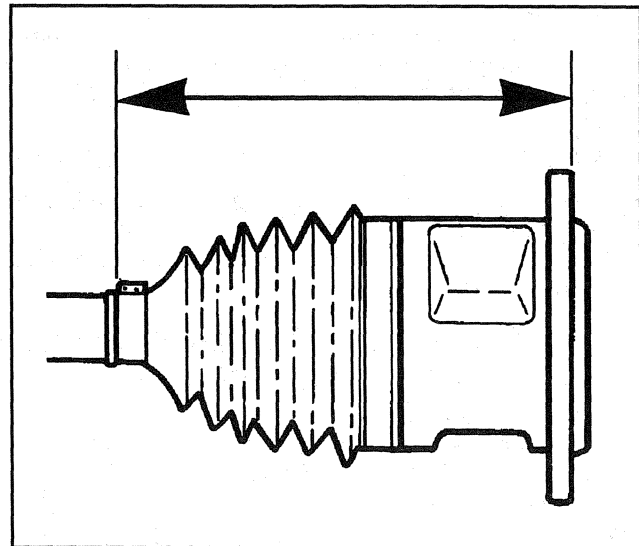

Figure 65—Tripot Seal Installation Measurements
9. Position the tripot assembly at the proper vehicle dimension as shown in Figure 65.